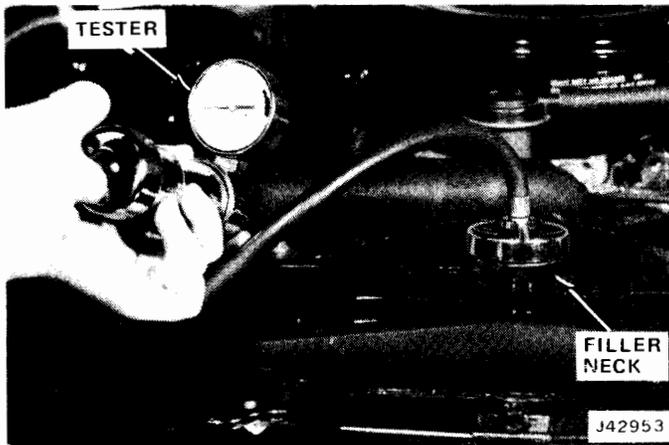

Fig. 2-8 Cooling System Pressure Test
(1) Carefully remove radiator pressure cap from filler neck and check coolant level.
(2) Wipe inside of filler neck and examine lower inside sealing seat for nicks, dirt, and solder bumps.
(3) Inspect overflow tube for dents or internal obstruction. Run a wire through tube to be sure it is clear.
(4) Inspect cams on outside of filler neck. If cams are bent, seating of pressure cap valve and tester seal will be affected. Bent cams can be reformed if done carefully.
(5) Attach pressure tester to filler neck (fig. 2-8). DO NOT FORCE.